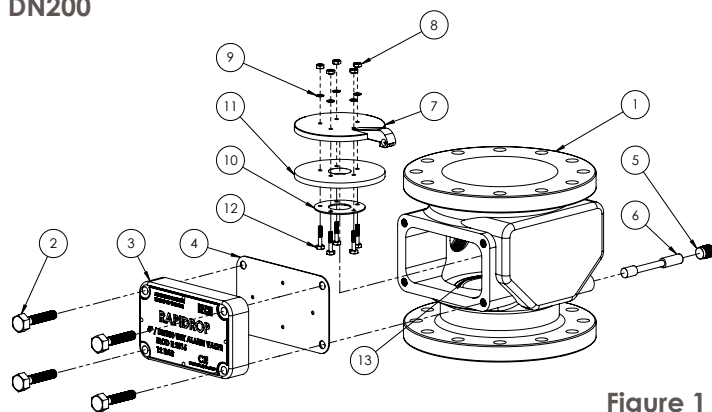

Figure 1
## Maintenance (See Figure 1&2)
4. After the system is fully drained, remove the *cover plate* (3).
5. Remove the *clapper shaft retaining plug(s)* (5) and the *clapper shaft* (6).
6. Clean thoroughly removing any accumulated deposits. Inspect the *clapper gasket* (11).
7. If the *clapper gasket* (11) is worn or damaged, unscrew the *clapper nut* (8) and disassemble *clapper components* (7-12).
8. Replace damaged components with genuine replacement parts, and reassemble clapper as shown in Figure 1.
9. Inspect the *clapper seat ring* (13) inside the valve body for lodgement of dirt, bruising or scoring. Clean thoroughly if necessary.
10. A damaged *clapper seat ring* (13) can be carefully polished using lapping compound. If the damage is extensive then a complete new valve should be fitted.
11. After the inspection and replacement of parts, reinstall the *clapper assembly* (7-12) and fix it with the *clapper shaft* (6).
12. Lock the *clapper shaft* (6) with *clapper shaft retaining plug(s)* (5) and reinstall *cover plate gasket* (4) and *cover plate* (3).